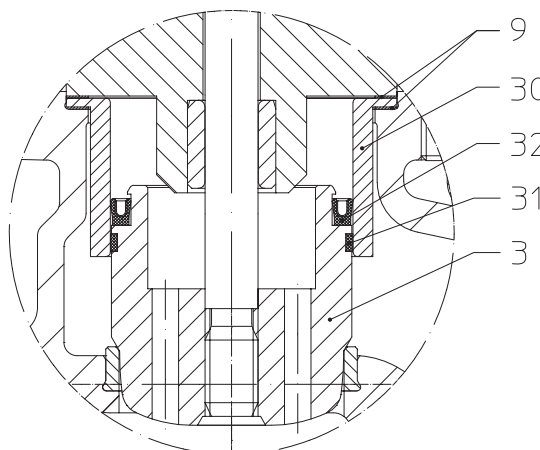

Fig. 27: Pressure balanced plug
- Remove plug as described in item 7.2.
- Prise worn piston seal (pos. 32) out of groove in plug with suitable tool (e.g. screwdriver).
- Insert new piston seal (pos. 32), taking care that it is in the correct position (refer to Fig. 27).
- Replace guide ring (pos. 31).
- Clean sliding surface of guide bush (pos. 30); smooth with fine abrasive if necessary.
- Replace 2 gaskets (pos. 9).
- Secure with nuts (pos. 11) and tighten them crosswise.